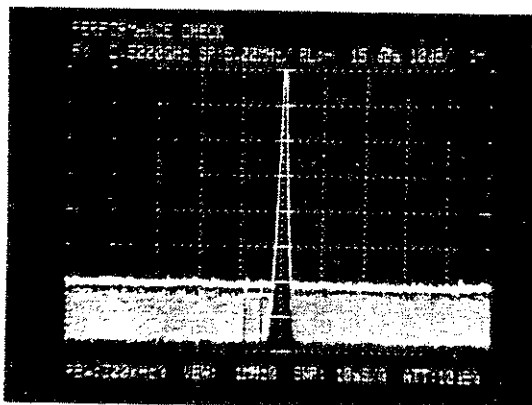

Fig. 3-20 MAX HOLD
1	Press WRITE [A:MAX HOLD] #48. The READOUT A LED lights (LED for READOUT B remains in the same state; it is assumed to be on) and the image shown in Fig. 3-20 is obtained. This displays the stored waveform data written to memory B in NORMAL mode (described in (2)) and the waveform data currently being written to memory A in MAX HOLD mode.